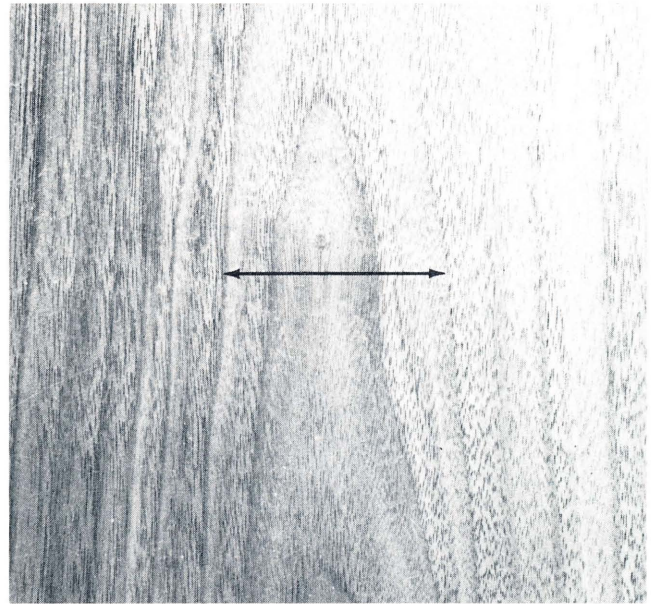

Figure 9—Sliced black walnut veneer. Narrower separation of growth ring ends.
18. Wood purplish brown to chocolate color, figure prominent on tangential face, surface dry to touch when rubbed with thumb, distinct odor. (Fig. 9) **Black Walnut**